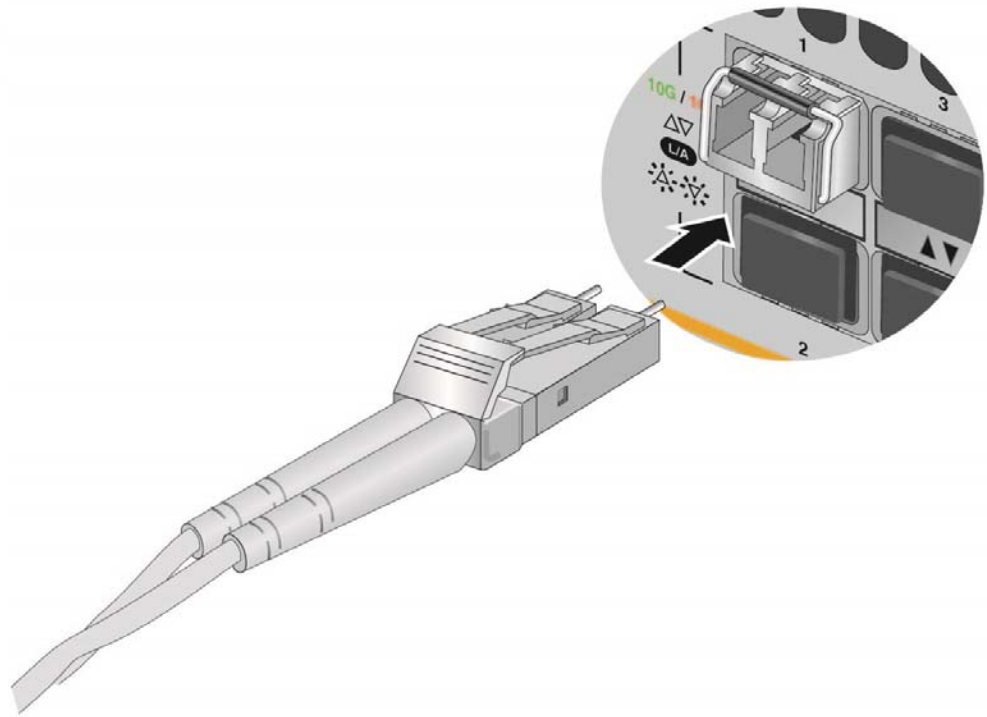

Figure 68. Connecting a Fiber Optic Cable to an SFP or SFP+ Transceiver
8. Connect the fiber optic cable to the transceiver, as shown in Figure 68 on page 115. The connector on the cable should fit snugly into the port, and the tab should lock the connector into place.